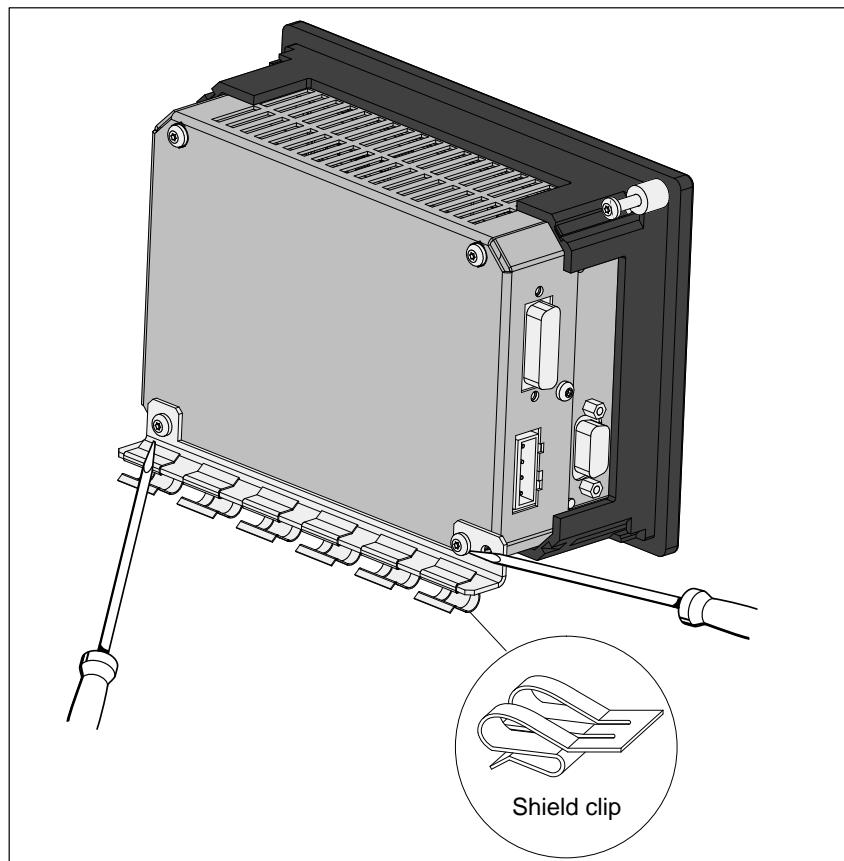

Figure 2-11 C7-621 with Grounding Bar and Shield Clips
1. Remove the two screws from the C7-621 as shown in Figure 2-11.
2. Position the grounding bar as shown in Figure 2-11 and fasten it in position with the two screws previously removed.
3. Fit the shield clips on to the grounding bar as shown in Figure 2-11.